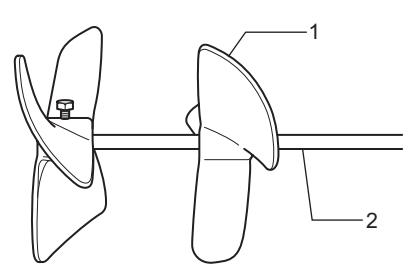

Fig.8
- Fig.8: 1. Mixing blade 2. Shaft